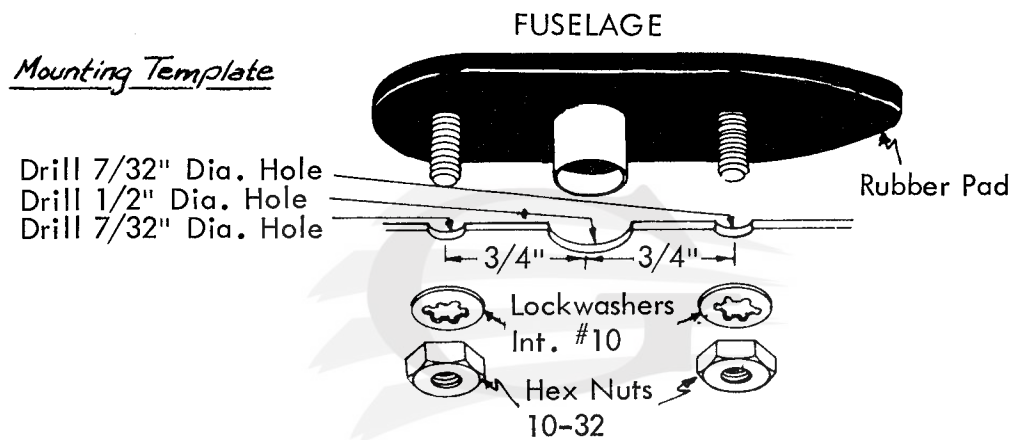

Figure 5
4. Drill the necessary holes and attach the fuselage mount as illustrated in figure 5.